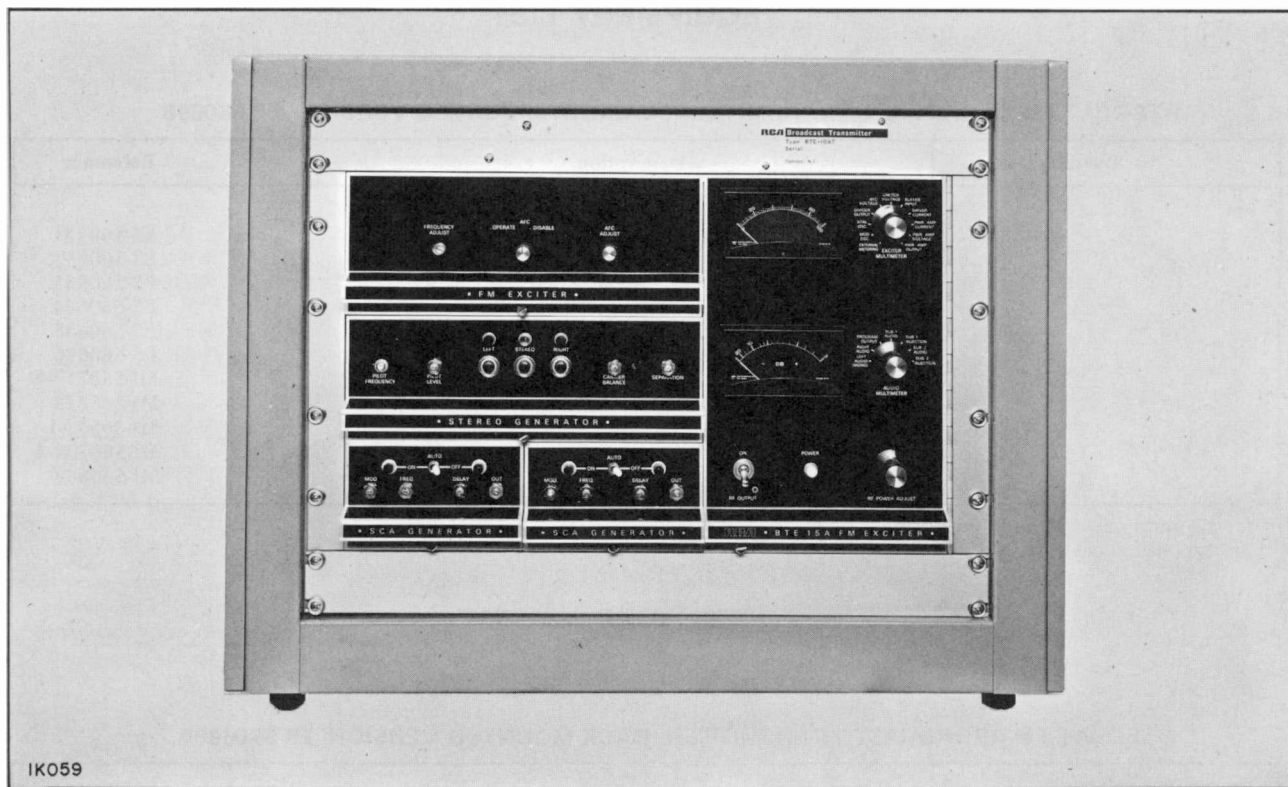

Figure 67. BTE-10 AT FM Transmitter ES-560698
F. Install the blank panel, MI-36547-1 at the bottom of the cabinet with the hardware provided with the cabinet, as shown in Figure 67.